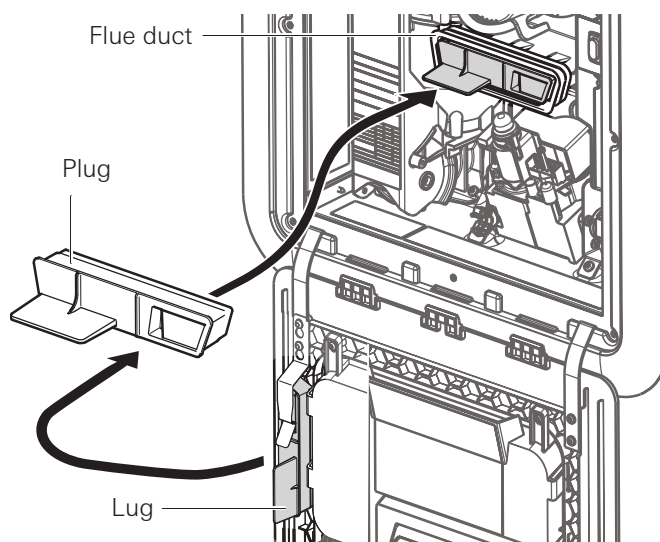

Fig. 6
5. Remove the plug from the holder and close the flue duct with it (see Figure 6).